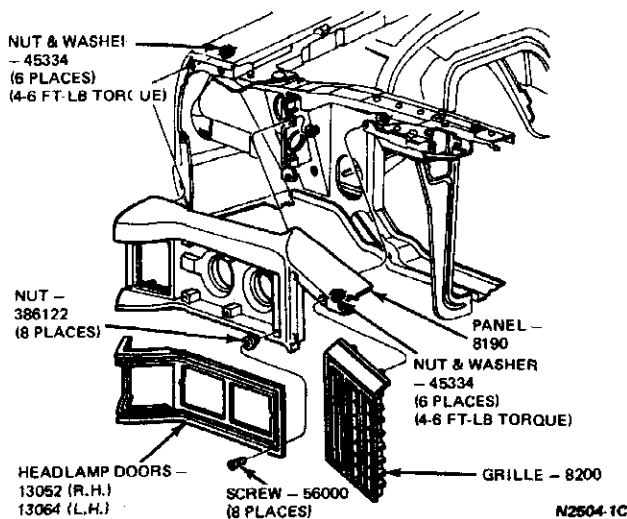

FIG. 2 Radiator Grille—Cougar
1. To remove grille, open the hood and detach the six nut and washer assemblies that attach it to the grille opening panel (Fig. 2).
2. To remove headlamp doors, unscrew the eight attaching screws and lift from grille opening panel (Fig. 2).
3. To remove grille opening panel, open hood and detach the 12 nut and washer assemblies (Fig. 2). Lift the panel away. The panel may be removed with the headlamp doors and grille attached.